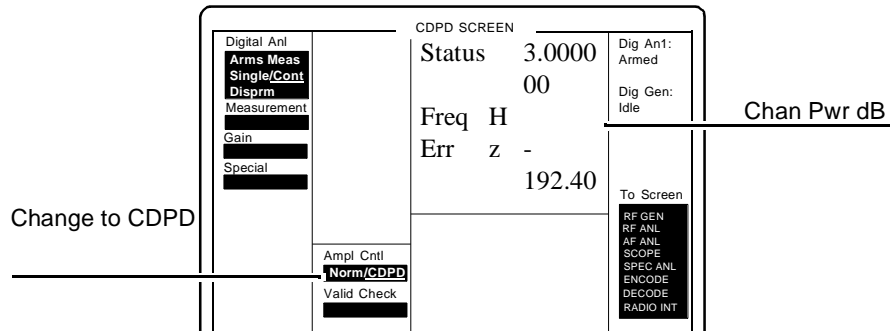

Figure 73
- b. Change **Ampl Cntrl** to **CDPD**, see figure 73.